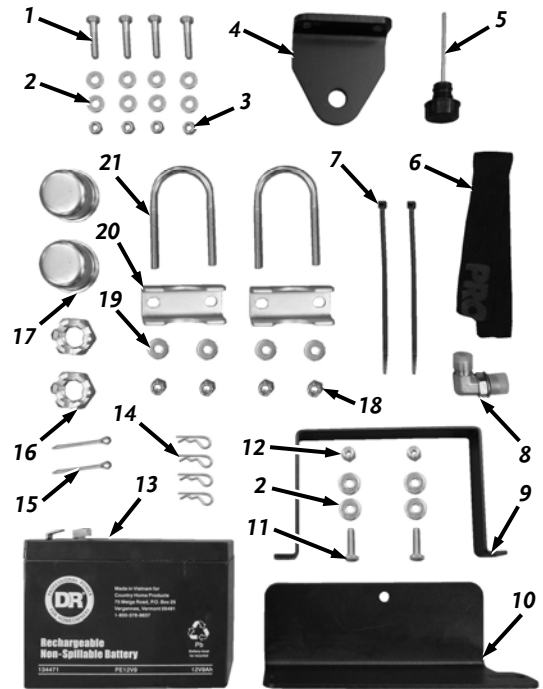

Figure 2
1. Open the Parts Box and lay them out on a clean flat area (**Figure 2**).
Parts Box (Figure 2):